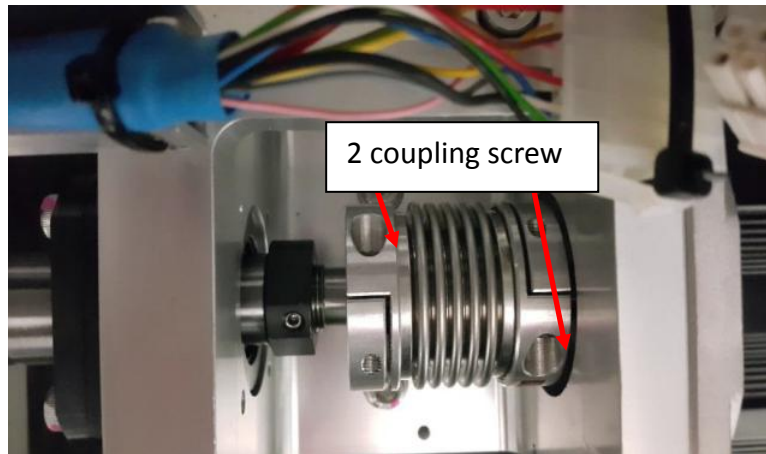

Figure 2 Coupling Screws
4. Loosen 2 screws at coupling (which join to the servo motor) as shown in Figure 2.